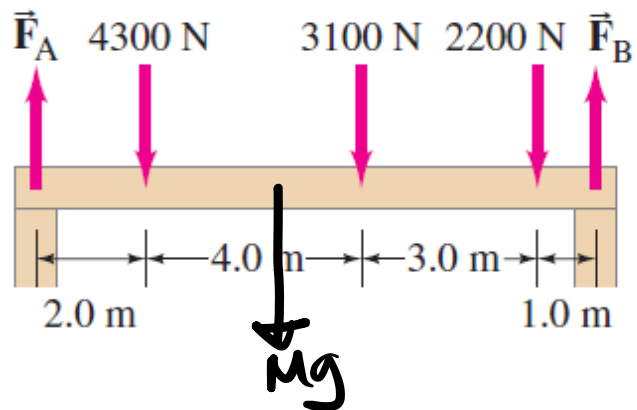

FIGURE 9-56
16. (II) Calculate  $F_A$  and  $F_B$  for the beam shown in Fig. 9-56. The downward forces represent the weights of machinery on the beam. Assume the beam is uniform and has a mass of 280 kg.